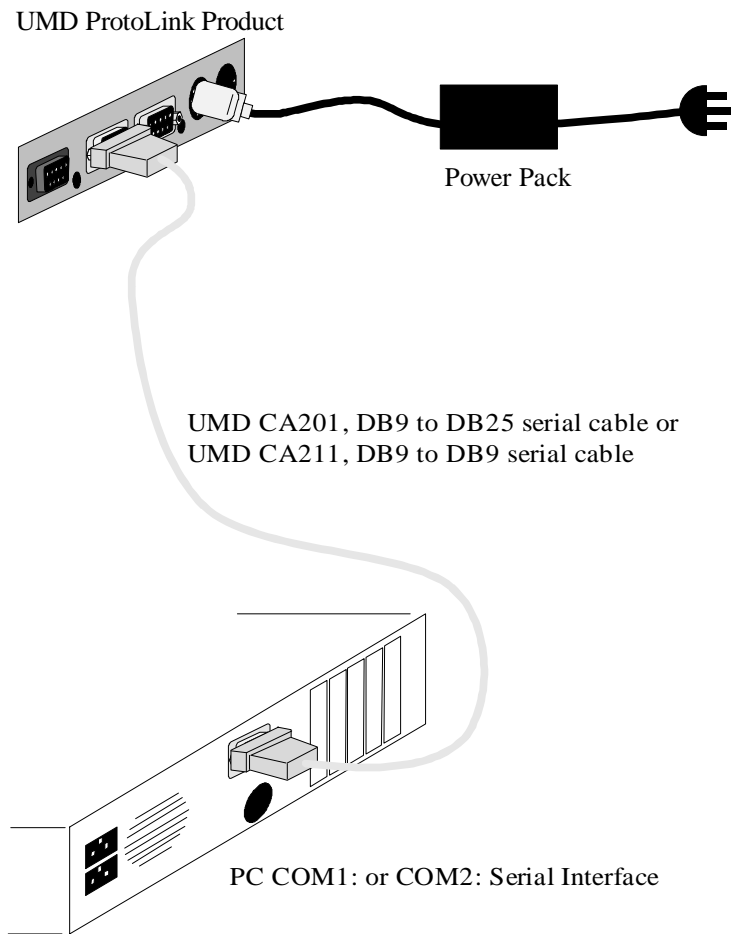

Figure 4
- 2) Referring to figure 4, connect the UMD CA201 or CA211 serial cable to either the S1 or S2 serial port on the UMD ProtoLink Product.